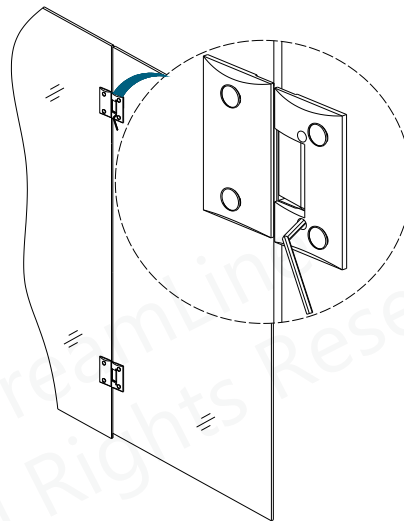

Figure 2
2. The hinges are set to overclose at 172° degrees. You can change this angle by using the adjustment screws on the hinge plate. (Figure 2)